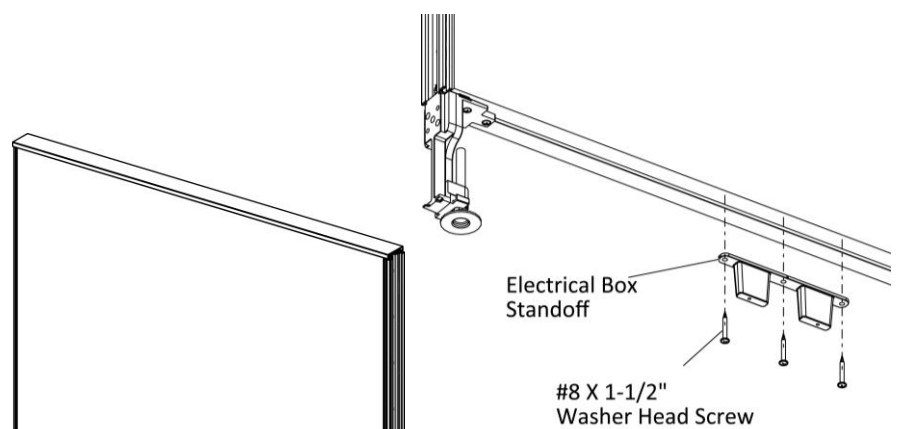

Figure 1
- 1. Center the electrical box standoff holder at the bottom of the panel, (Figure 1).